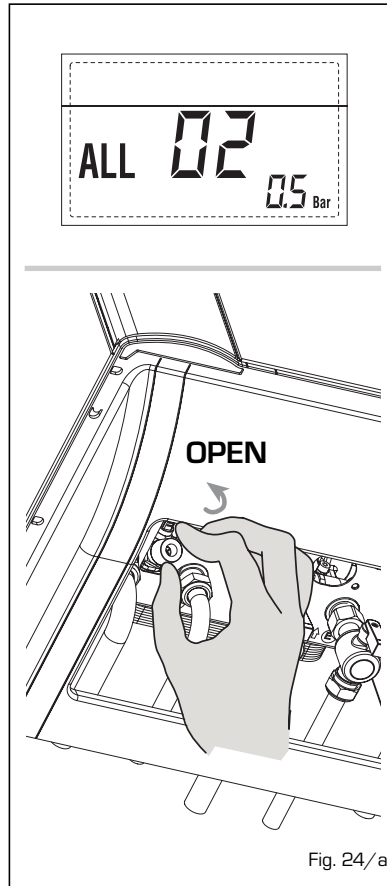

Fig. 24/a
**- HIGH WATER PRESSURE ANOMALY ALARM 03 (fig. 24/b)**